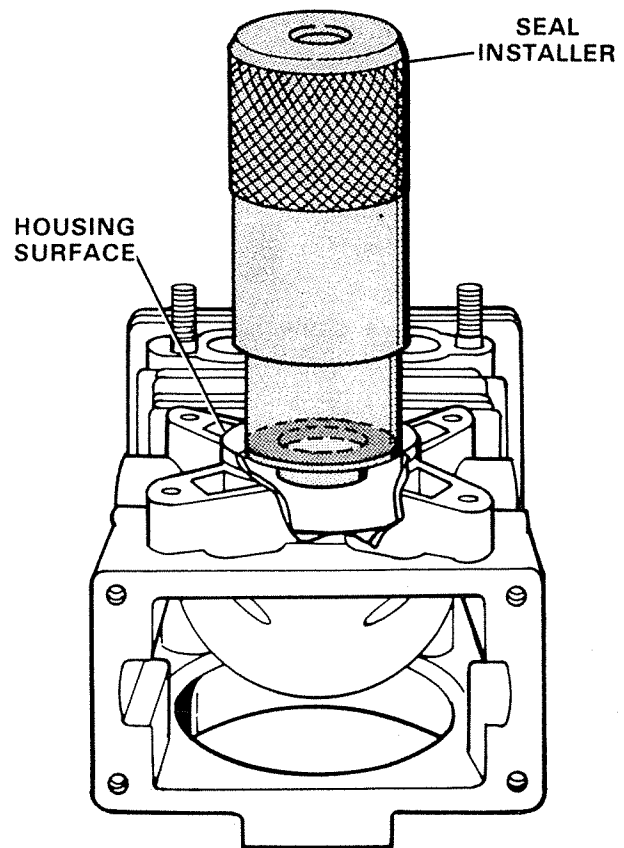

Figure 24. Installing Lower Crankshaft Seal.
A. Press seal into bore with sealing lip down, until seal is 0.15-0.35 inches (3.81-8.89 mm) below surface of housing. Figure 24.